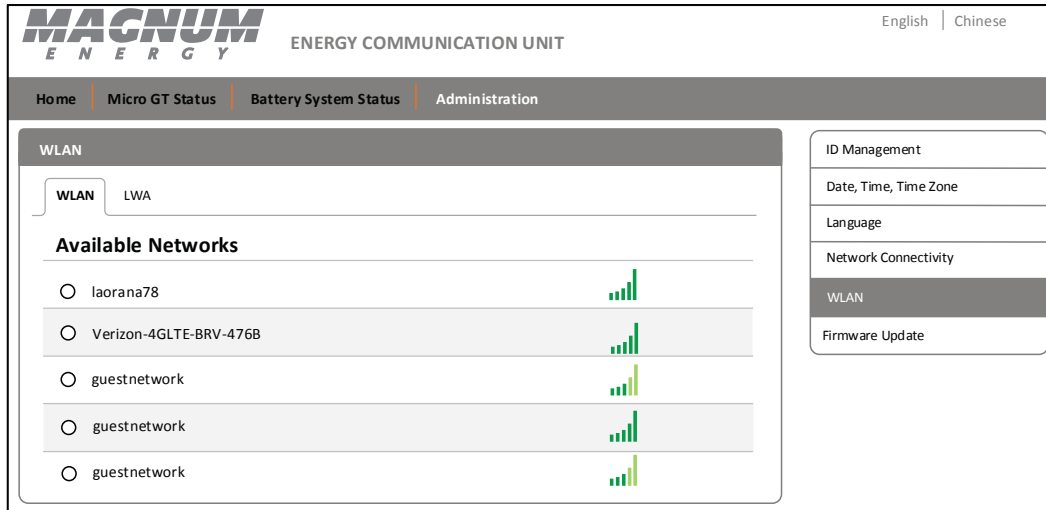

Figure 32, Available Networks Screen
2. Select the *WLAN* tab—if not already prominent (Figure 32). A list of available networks appears.
1. From the Administration tab, select the WLAN option. The WLAN screen appears (Figure 32).